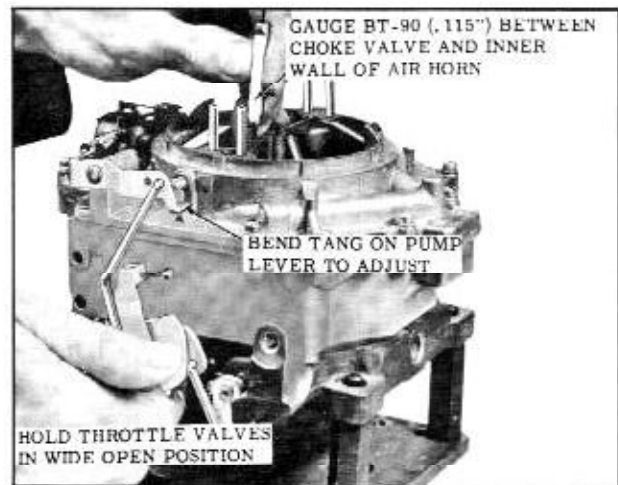

Fig. 8-118 Unloader Adjustment
2. While holding the throttle lever in the wide open position (with carburetor off car), or with accelerator pedal completely depressed (with carburetor on car), check the clearance between the top edge of the choke valve and the dividing wall. The correct clearance is $.115''$ and can be checked with gauge BT-90. (Fig. 8-118)